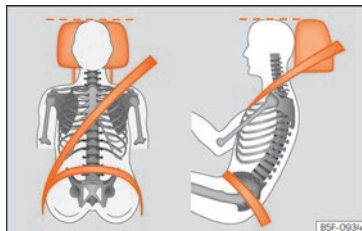

Fig. 5 Correct belt web and headrest positions
- Adjust the headrest so that its upper edge is at the same level as the top of your head, or as close as possible to the same level as the top of your head and under no circumstances below eye level. Keep the back of your neck as close as possible to the headrest » **Fig. 5.**